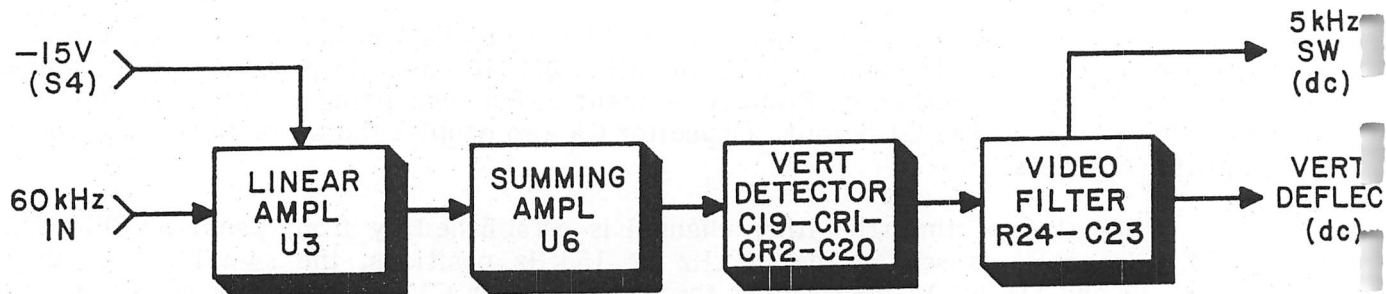

Figure 3-2. Linear Amplification Circuit, Block Diagram
3.2.5.1 Linear Amplifier (Figure 3-2)